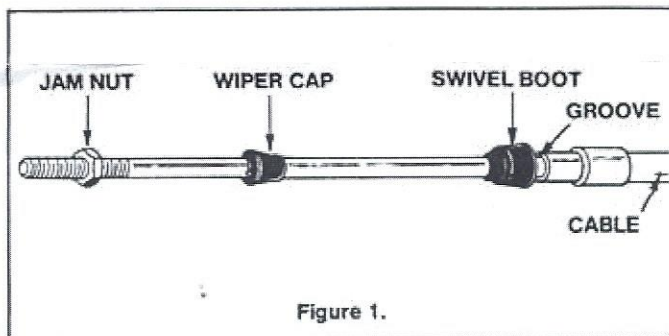

Figure 1.
**Step 1.** Remove Jam Nut, Wiper Cap, and Swivel Boot from one end of each cable (See Figure 1). Save Jam Nut and Wiper Cap for reuse.